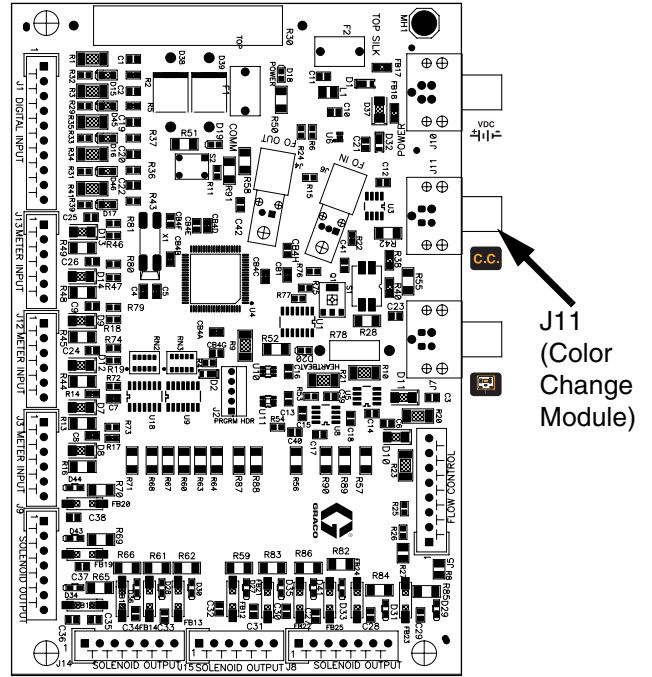
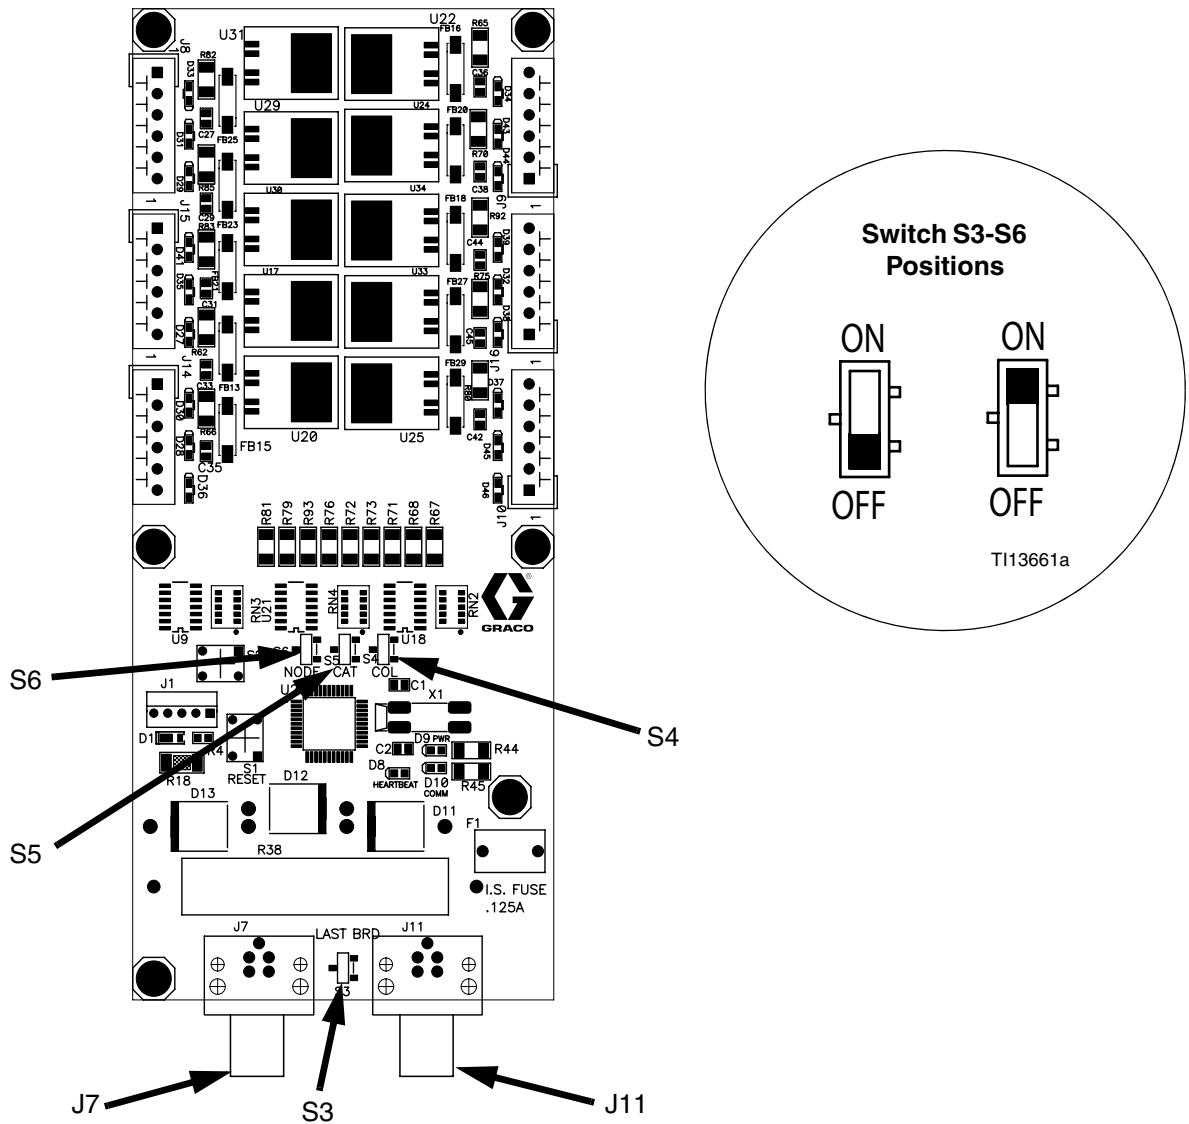

FIG. 2: Fluid Station Control Board Connection
FIG. 5. 256172 Color Change Board Switch Settings
2. See FIG. 1. Connect a 5-pin electrical cable (EC) from the labeled connection port **C.C.** (J11) on the fluid station control board to the color change board. Also see FIG. 2 and FIG. 5.
If you are using two color change modules to add colors, connect a 5-pin electrical cable from the first color change board to the second color change board. See FIG. 5.
Set switches S3-S6 on the color change board(s) as shown in Table 2 and FIG. 5, depending on the number of color change boards and color change modules being used in your system.